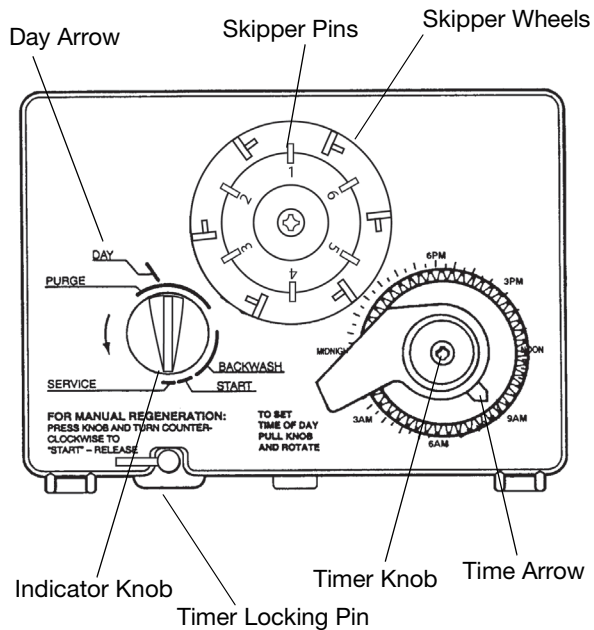
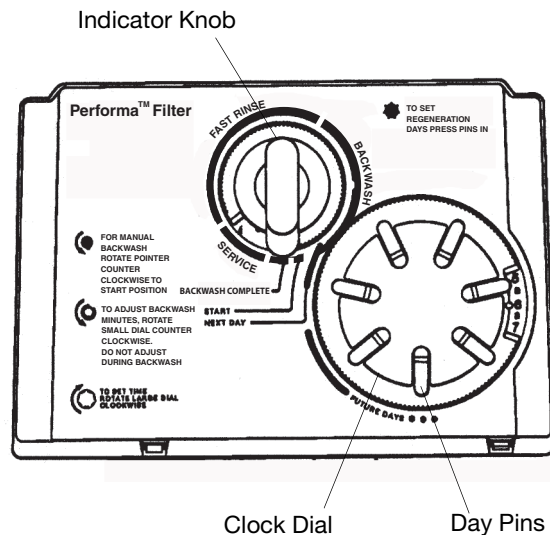
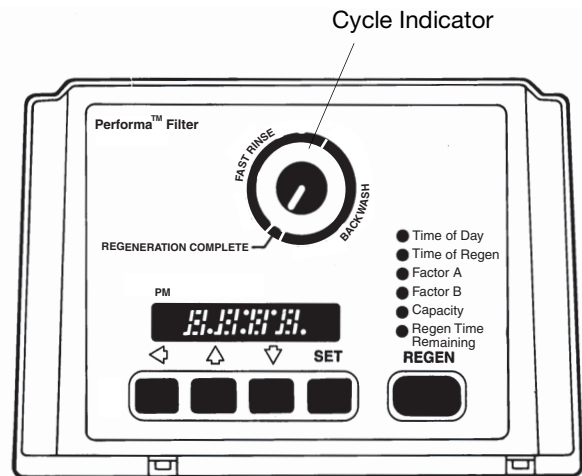

Figure 4
Figure 5
Figure 7
**Note:** The following steps will require turning the indicator knob (Figure 4 and Figure 5) or the cycle indicator (Figure 7) to various positions. Manually rotate the camshaft **COUNTERCLOCKWISE** only until indicator knob and cycle indicator points to desired position. (See manual regeneration sections for each control's manual operation.)
- Set days of regeneration on skipper wheel (Figure 4).
**Note:** The timer locking pin should always be horizontal (Figure 4) during operation.
extra regeneration can be achieved. Depress the indicator knob on the 440i (Figure 4) with a wide-blade screwdriver and turn **COUNTERCLOCKWISE** to **START** to initiate a regeneration. It will take a few minutes for regeneration to start. A normal regeneration will take approximately two hours.
Electricity is used only to run the control and to rotate the camshaft. All other functions are operated by water pressure. Therefore, in the event of a power outage, all the regeneration positions may be dialed manually by depressing the indicator knob and turning **COUNTERCLOCKWISE** (Figure 4). The following cycle times should be used for proper regeneration:
- Set days of regeneration (Figure 5).